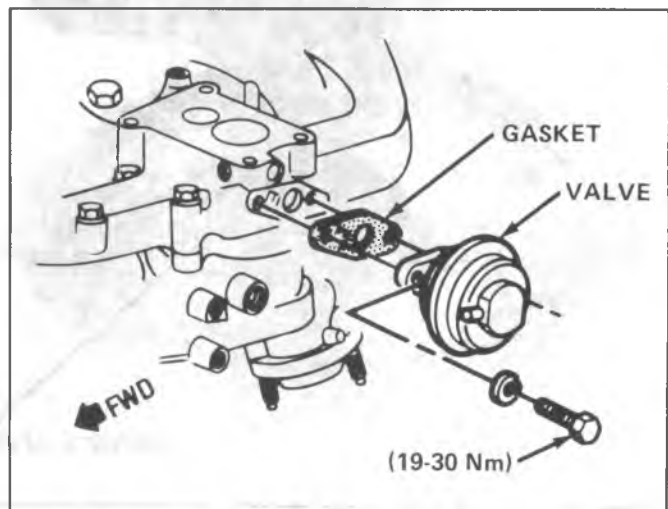

Fig. 6E-15a-EGR Valve 4.1L
2. Remove bolts or nuts holding EGR valve on manifold (Fig. 6E-15a).